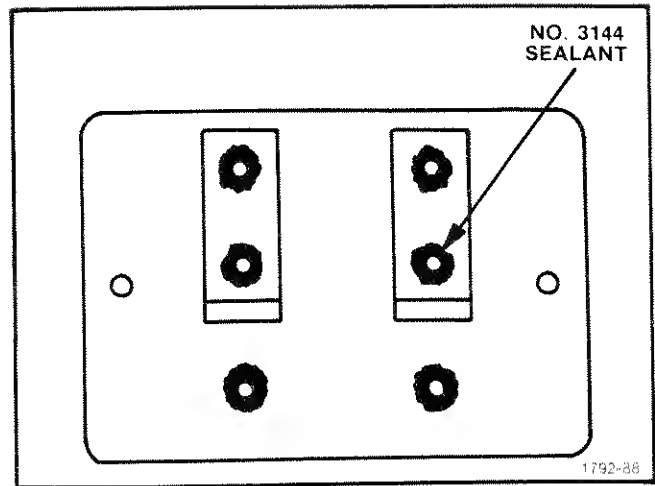

Fig. 5-35. Sealing of Battery Pack screwholes.
30. Watertight sealing procedures for the Battery Pack (see Figs. 5-35 and 5-36)
2. Form a bead of No. 3144 sealant in and around each of the six screw holes in the Panel. See Fig. 5-35.